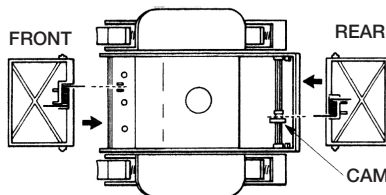

Figure 12
**Because the springs in the flaps are different, it is absolutely necessary to install the proper flap in the front and rear of the unit.** Failure to do so will result in unsatisfactory performance of the Pool Vac Ultra. When installing the front flap, be sure that the extended leg of the spring is inserted into the notch on the front of the lower body (see Figure 12). Push the flap in place. You will actually feel and hear a snap when the flap is in place. Fold the flap in towards the bottom of the Pool Vac Ultra. You will feel some resistance at this point (that is normal). As the flap snaps into its normal position, you will feel the spring action and notice that the front flap is now in its normal operating position.
When installing the rear flap, the extended leg of the spring must fit against one of the flat surfaces of the cam (see Figure 12).